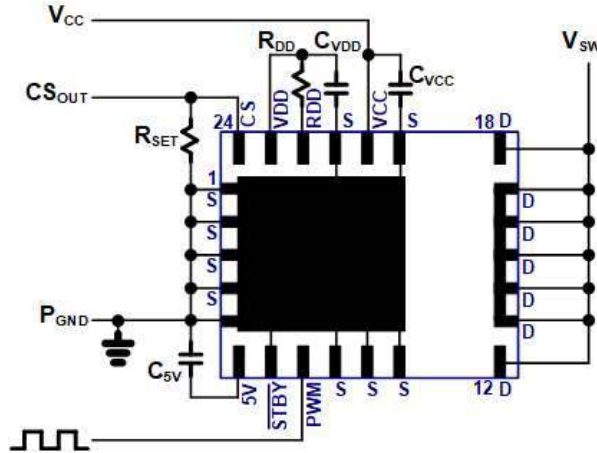

Fig. 20. IC connection diagram
The typical connection diagram for this GaN Power IC is shown in Fig. 20. The IC pins include drain of the GaN power FET (D), source of the GaN power FET (S), IC supply (V_{CC}), gate drive supply (V_{DD}), gate drive turn-on control SET input (R_{DD}), PWM input (PWM), separate signal GND, current sensing output (CS), auto-standby mode input (\overline{STBY}), and 5V output (5V). The Source pad and Source pins (S) should all be connected to the system P_{GND} . The Source pins (S) should each be connected externally to the Source pad directly underneath the IC. The Drain Pins (D) should all be shorted together by copper in the layout (see section 9). The external components around the IC include V_{CC} filter capacitor (C_{VCC}) connected between V_{CC} pin and Source (S) pin, V_{DD} filter capacitor (C_{VDD}) connected between V_{DD} pin and Source (S) pin, turn-on dV/dt set resistor (R_{DD}) connected in between V_{DD} pin and R_{DD} pin, a current sense amplitude set resistor (R_{SET}) connected between CS pin and Source (S), and auto-standby mode pin (\overline{STBY}) connected to Source (S). An external capacitor (C_{5V} , 0.01 μ F max) is required between pin 5V and S. This 5V pin is for internal purposes only and must not be used for biasing external circuitry.